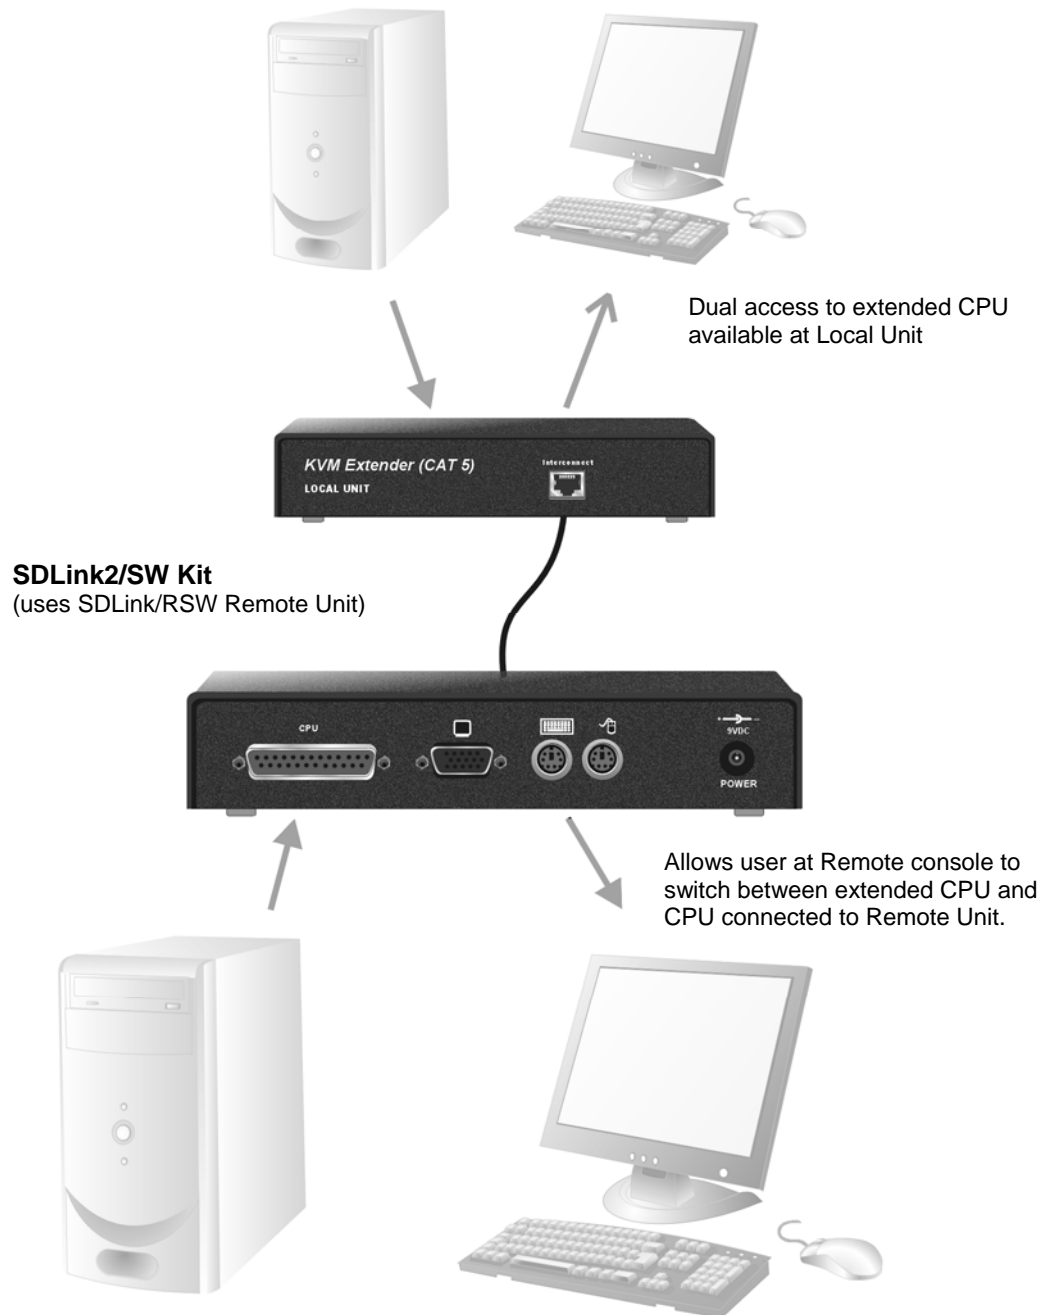

Figure 13 SDLink2/SW kit with switching Remote Unit
- SDLink2/SW extender kit allows remote user to switch between remote and local CPUs (Figure 13).